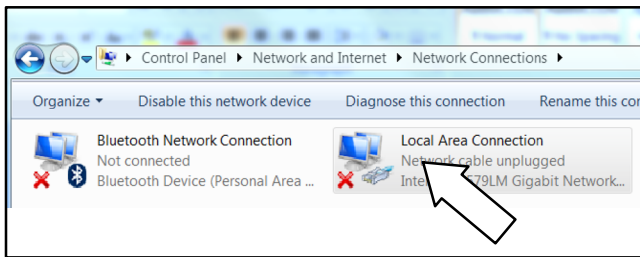

Figure 22 Select Local Area Connection
14.4 Click on the Local Area Connection. See Figure 22.